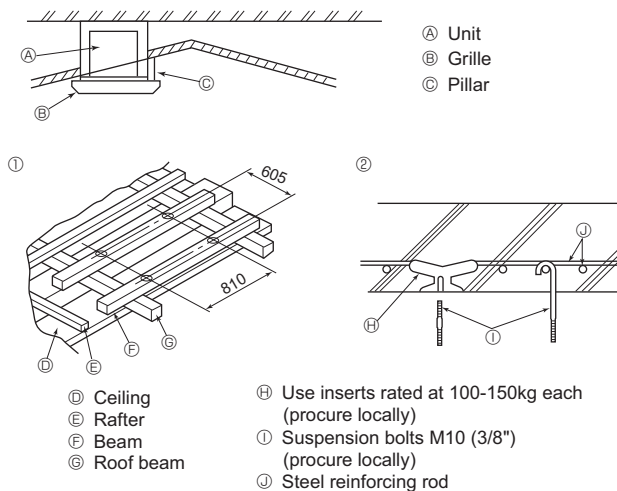

Fig. 2-4
2.4. Suspension structure (Give site of suspension strong structure) (Fig. 2-4)
① Wooden structures
② Ferro-concrete structures